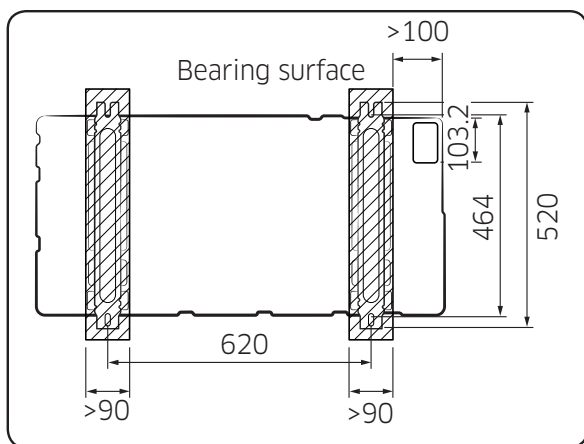

Figure 1
- As shown in Figure 1, to ensure the shadow part is on the bearing surface without suspension.
- As shown in Figure 1, the four installation footings shall be firmly fastened on the base platform by the bolts (preparing four sets of M10 bolts with fitful nuts and washer which are used on site)
- Please ensure the shadow part in Figure 1 is really installed on the bearing surface without any suspension.
- The ground base that is larger than the standing leg of the air-conditioner (90mm in width and 520mm in length) shall be used to support the air-conditioner (See Figure 1), and the rubber mat shall be fully placed on the whole bearing surface.
- The installation mode mentioned above shall ensure that the shadow part in Figure 1 is really on the installation surface.